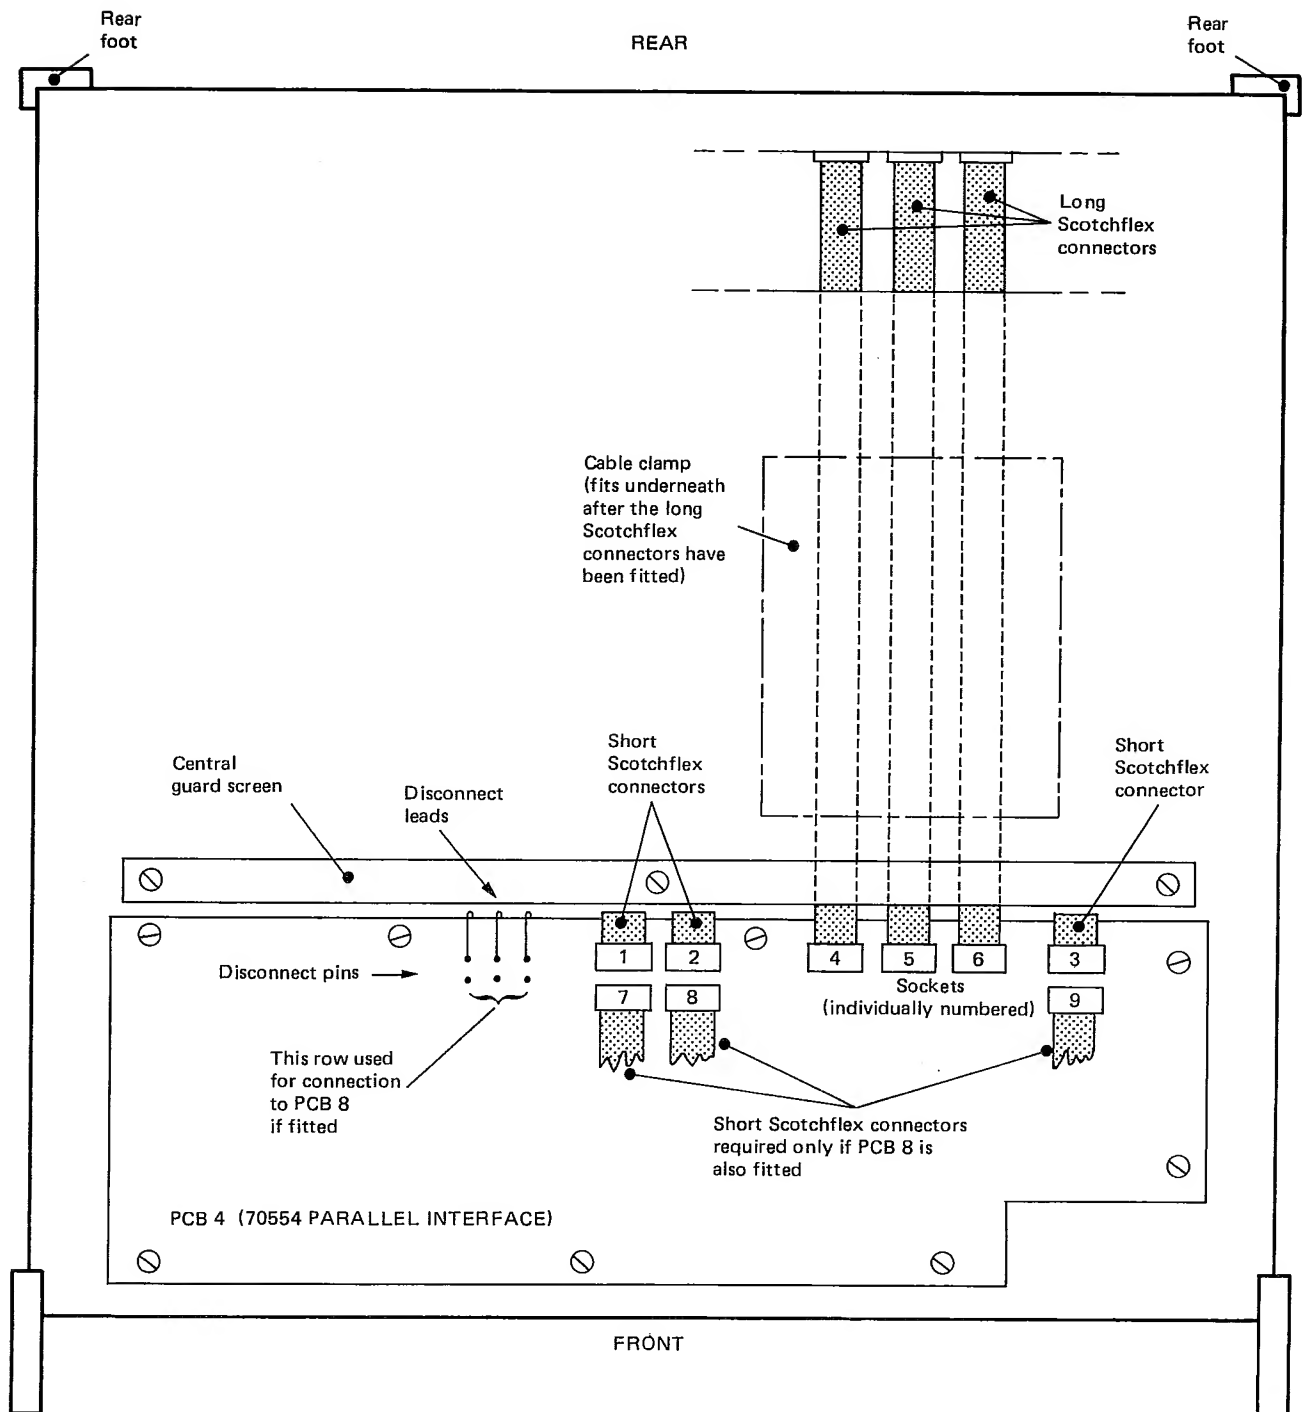

Fig. 5 Simplified plan view of the instrument showing PCB 4 and interconnections
Pcb 4 is now fully fitted to the instrument (see Fig. 5 to verify correct interconnections).
13. Fit the 3 short Scotchflex connectors to sockets 7, 8 and 9 on pcb 4. (Figs. 5 and 6) such that the cables point toward the front of the instrument.